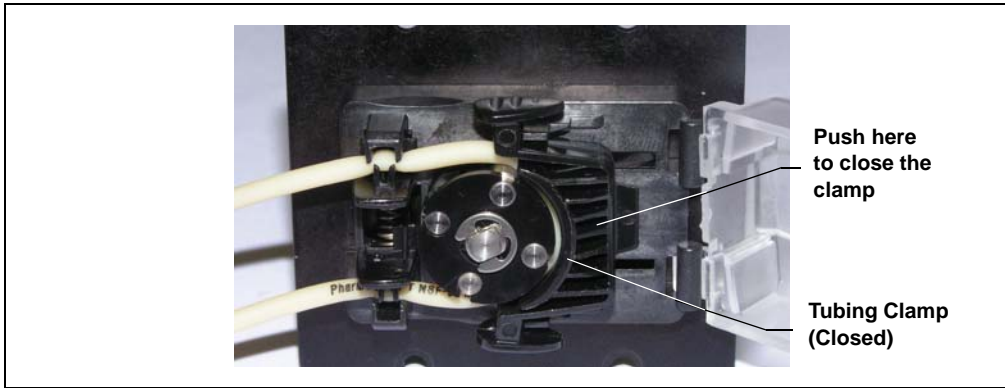

Figure E-7. Peristaltic Tubing Installation Completed
9. Wrap the tubing snugly around the pump head rollers. Lift up the bottom tubing clip to open it, insert the tubing into the clip opening, and then release the clip (see Figure E-7).
10. Close the tubing clamp by pushing it to the left until the tabs lock into place (see Figure E-7).
11. Close the pump door, making sure both tabs are outside the door (see Figure E-7).